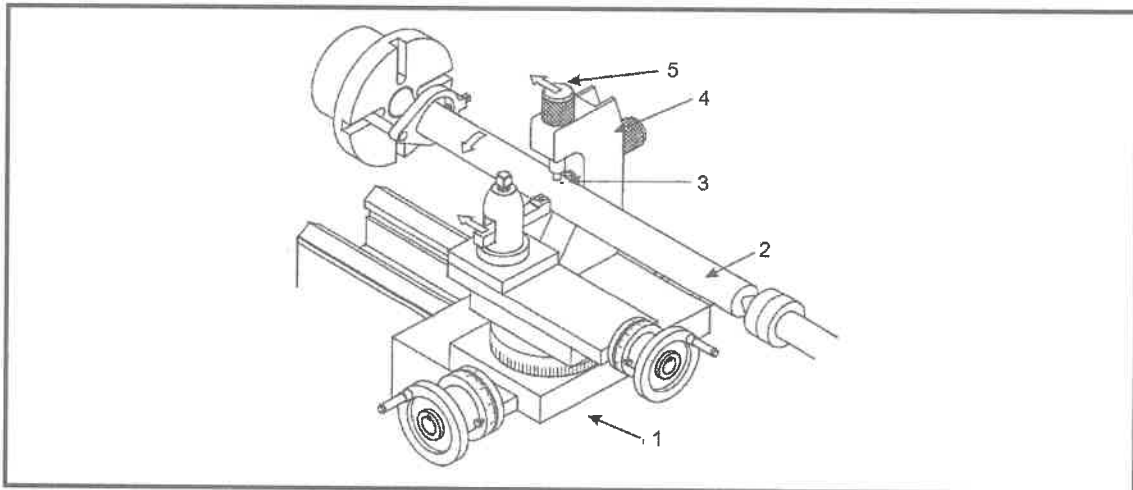

FIGURE 1 ★
Identify the components of the travelling steady shown in FIGURE 1 by writing only the answer next to the number (1–5) in the ANSWER BOOK. (5 × 1) (5)
4.5 Name THREE types of milling machines. (3)